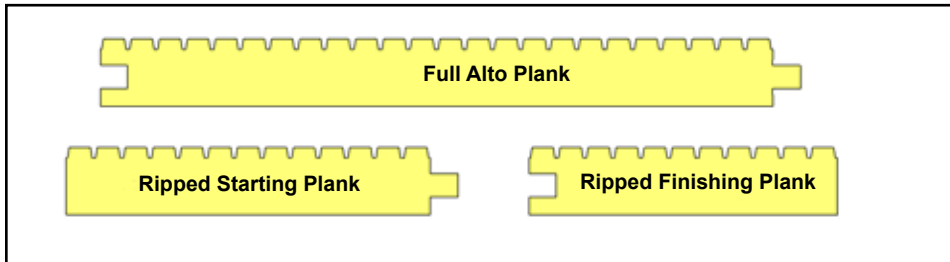

Figure 3
- Rip planks for starting and finishing planks. The start plank should have a tongue and the finish plank should have a groove. (Figure 3)